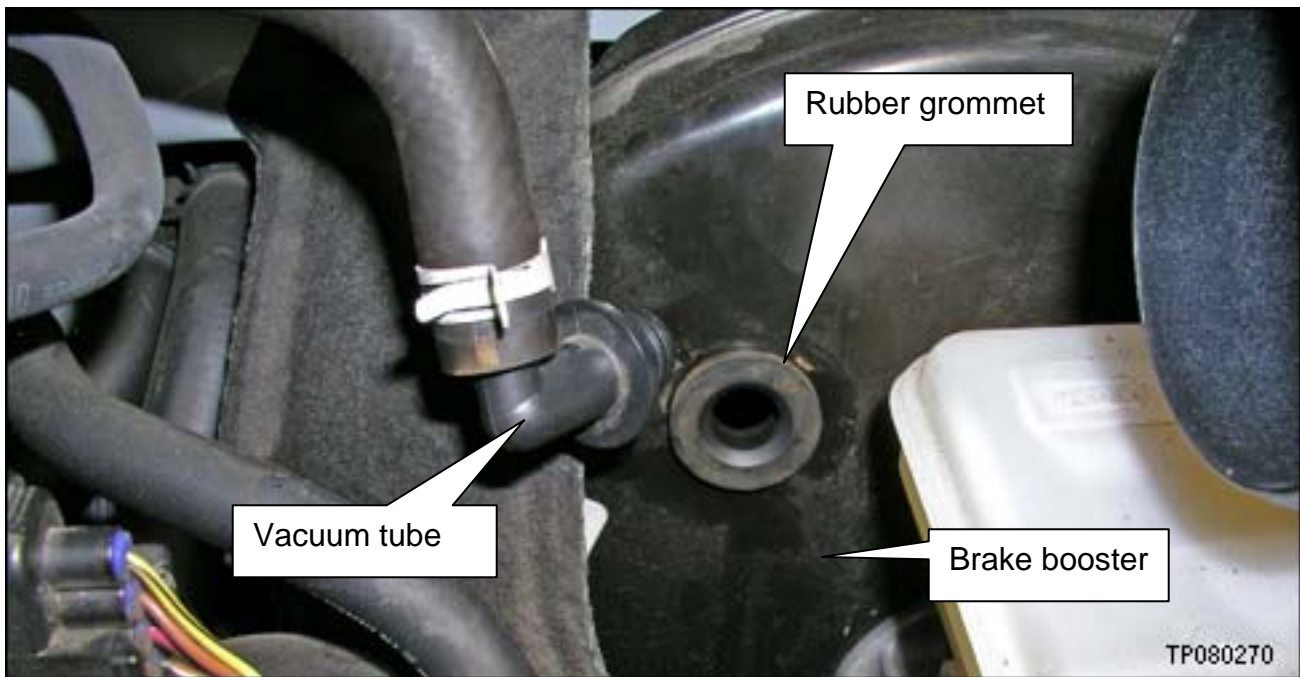

Figure 2
2. Carefully pull the vacuum tube from the brake booster (see Figure 2).
3. Remove the rubber grommet from the brake booster (see Figure 2).